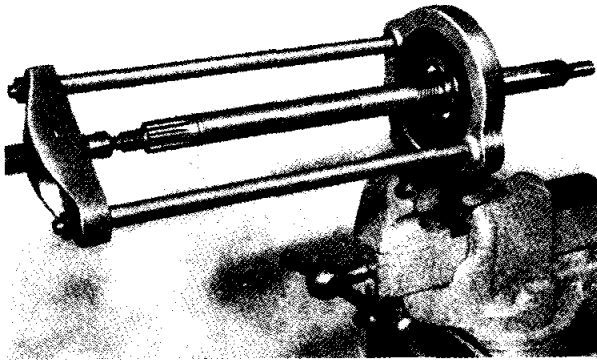

Fig. 14 Removing Mainshaft Centre Bearing with Churchill Press No. S4221 and adapter from Set No. S4615.
- (o) Remove the small seeger circlip and thrust washer which locates the ball race on the mainshaft and extract the race as shown in Fig. 14. The triangular washer can then be removed from behind the race.